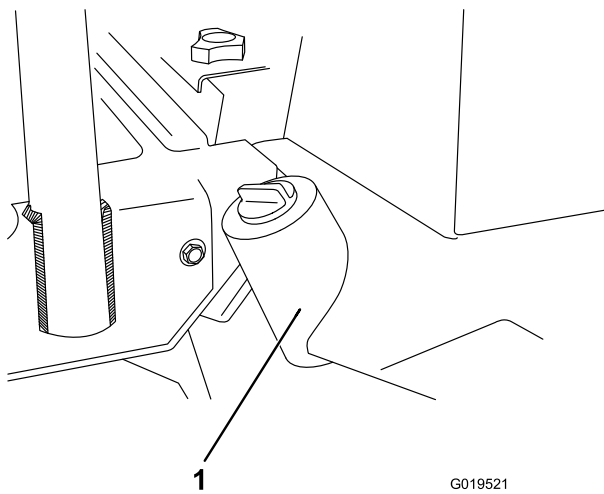

Figure 73
3. Remove the drain plug from the bottom of the reservoir (Figure 73) and let the hydraulic fluid flow into a drain pan.